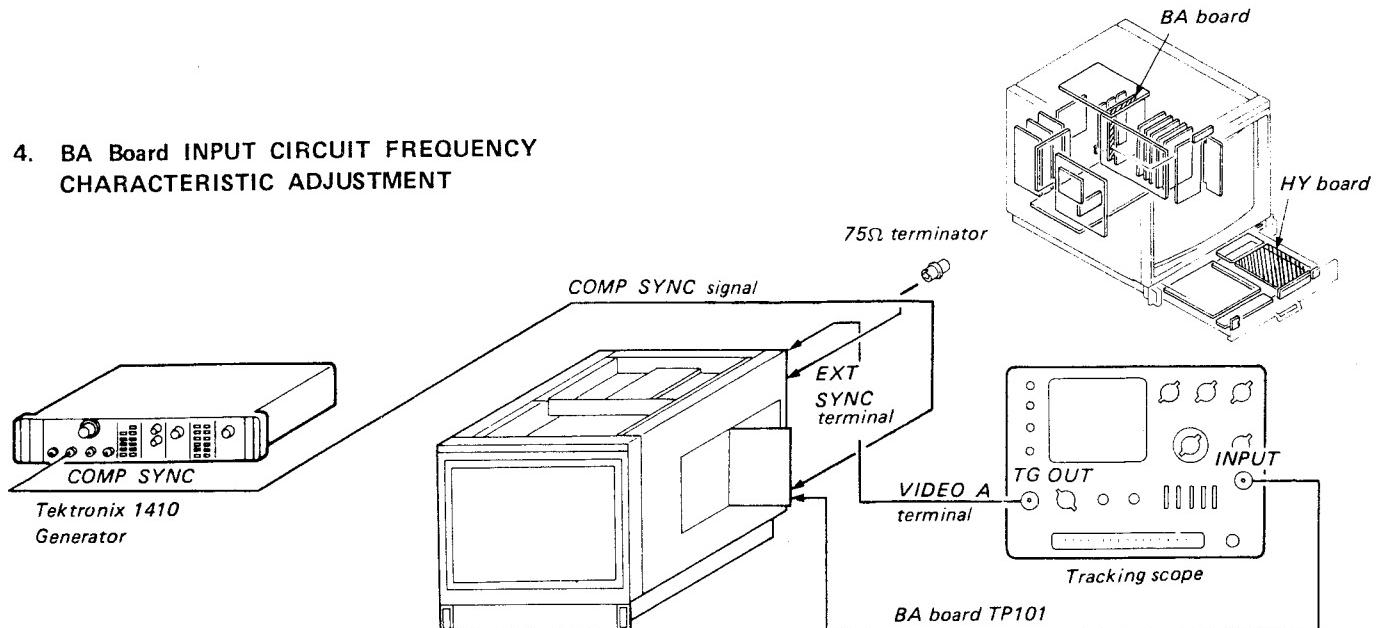

Fig. 4-1
1. Complete the connection as shown in Fig 4-1.